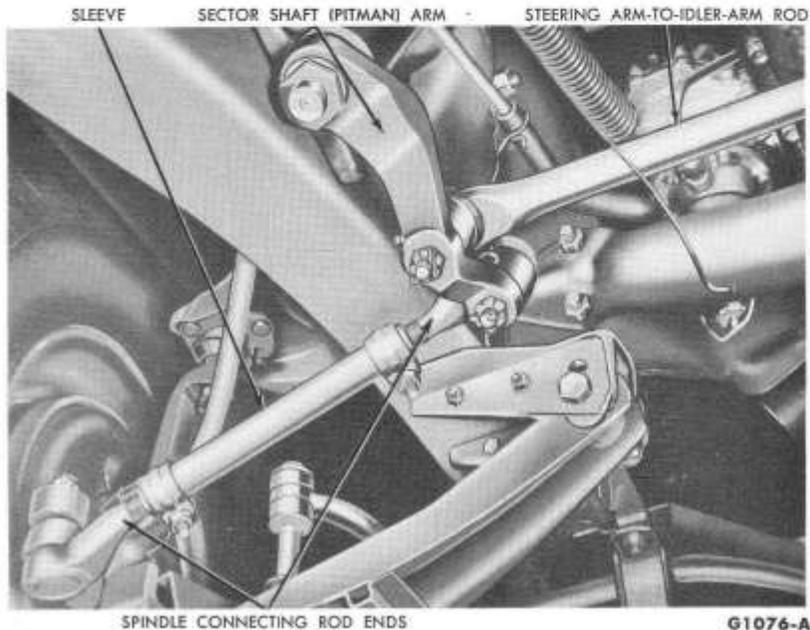

FIG. 1—Spindle Connecting Rod
The manual steering linkage (Figs. 1 and 2) consists of the sector shaft (Pitman arm), the steering arm to idler arm rod, the steering idler arm, and the spindle connecting rods (tie rods).
1. Remove the cotter pin and nut from the worn rod end ball stud (Figs. 1 and 2).
A spindle sleeve should be replaced if it becomes worn or damaged (Figs. 1 and 2). **Do not attempt to straighten the sleeve if bent or chase the threaded portion if damaged.**
1. Remove the cotter pins and nuts from the ball studs at the sector shaft arm and the idler arm, and remove the steering arm to idler arm rod assembly (Figs. 1 and 2), using tool OTC 462.